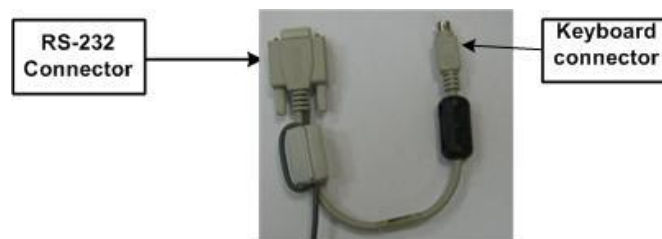

Figure 18: The Pulse Oximeter Connectors
1. Remove the Pulse Oximeter sensor and the unit connector cable from the kit. One end of the unit connector is gray and connects to the sensor. The other end of the unit connector cable has two connectors, a Keyboard connector and an RS-232 connector (Figure 18).